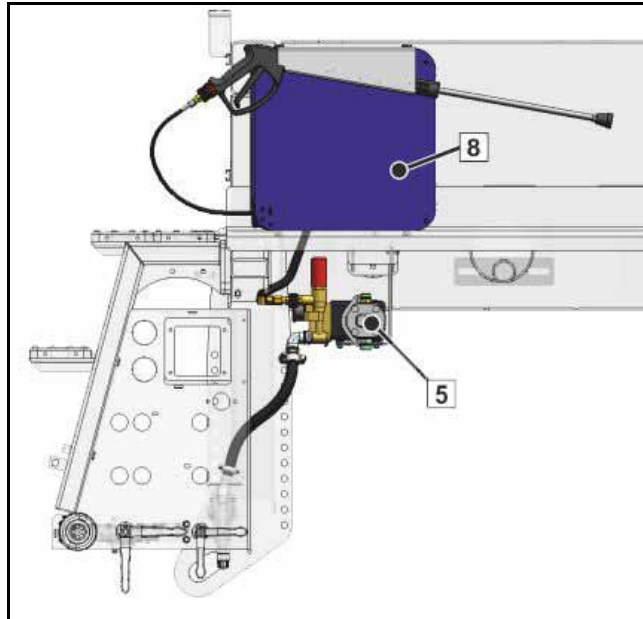

Fig. 477 Hose reel (8) fig. similar
The system is equipped with rolling equipment (8) (**Fig. 477**) for the high-pressure hose.